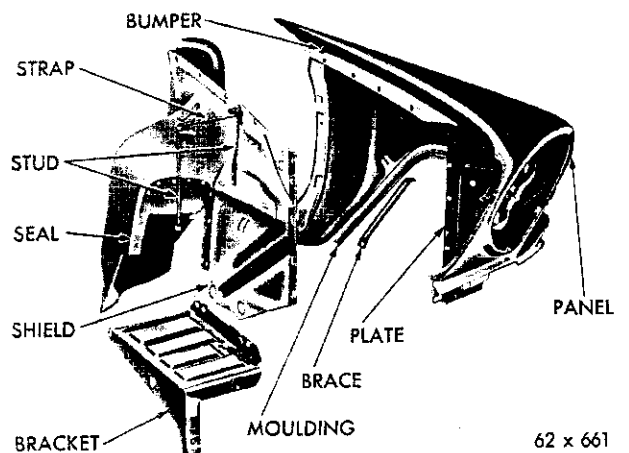

Fig. 100—Disassembled Front Fender and Splash Shield (Chrysler)
#### FENDER (Figs. 100 and 101)
**FENDER SPLASH SHIELD (Figs. 100 and 101)**
- (1) Disconnect the battery.
- (2) Jack up the front of the car and remove the front wheel and tire assembly.
- (3) Remove the fender lower brackets attaching bolts.
- (4) Remove the splash shield to frame attaching bolts.
- (5) Remove the fender to splash shield attaching bolts. If removing the left hand splash shield, it will be necessary to disengage and remove battery, unclip the wire harness and remove the lead wire that connect to the starting motor solenoid.
- (6) Remove the horn and the yoke to shield the fender attaching bolts.
- (7) Remove the voltage regulator and the solenoid from the splash shield.
- (8) Remove the wire harness from the splash shield clips.
- (9) Remove the upper splash shield to fender attaching bolts.